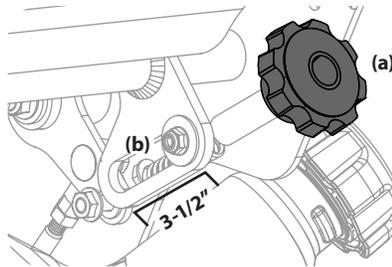

Figure 4-21
2. Adjust the tracking knob (a) until the threaded rod (b) is flush with the end. See Figure 4-21. The length of the spring should be approximately 3-1/2" for proper adjustment.